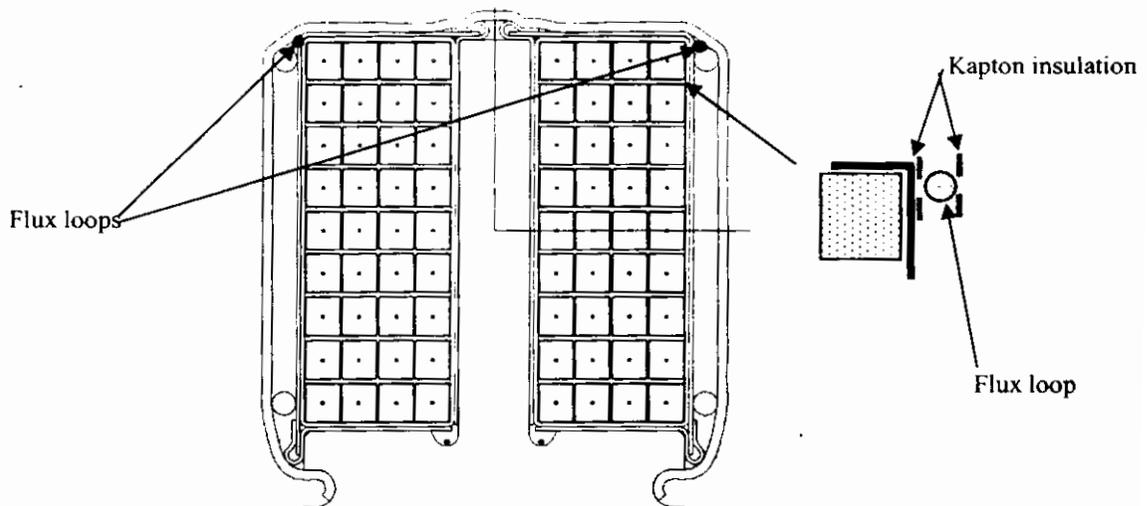

Figure 19-Diagnostic Loops
- 6.32.1 Diagnostic flux loops are to be positioned on the outer edges of each coil pancake as identified in Figure 19-Diagnostic Loops. Actual position will be determined by NCSX drawings.